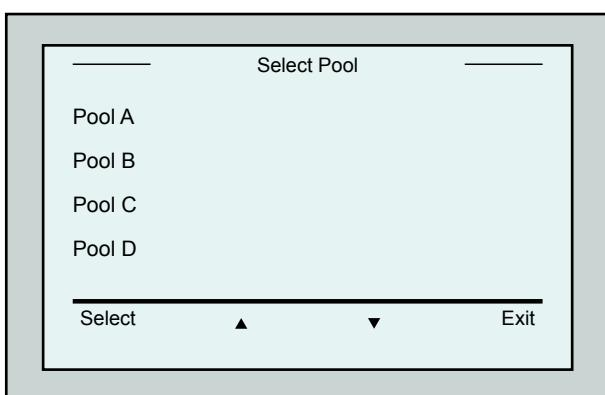

Figure 9: Pool Profile screen
2. From the Wave screen, press **Pool A**. The Pool Profile screen opens (Figure 9).